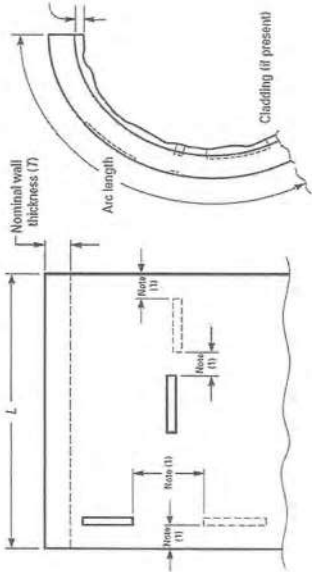

Fig.1 Calibration Block for Piping
5.4.1. Calibration block requirement shall be complied with ASME Section V article 4 sections T-434 regarding the reflector, material, quality, heat treatment, surface finish, and block curvature as Fig.1.